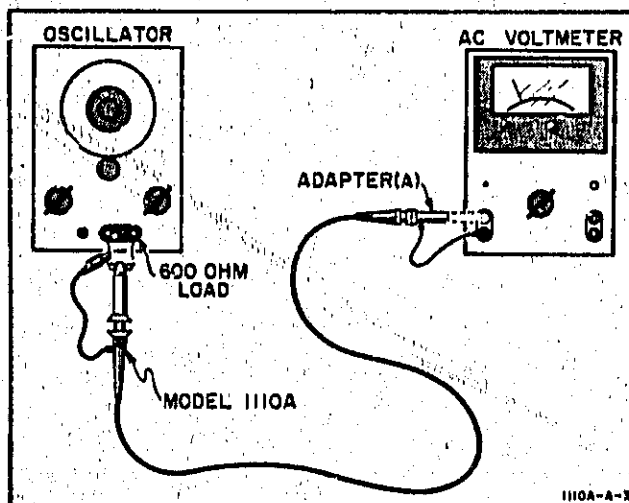

Figure 4. Accuracy and Low-Frequency Limit Test Setup
26. The following procedure is used to check the accuracy of the current/voltage conversion factor. Set up the test equipment as indicated in Figure 4.